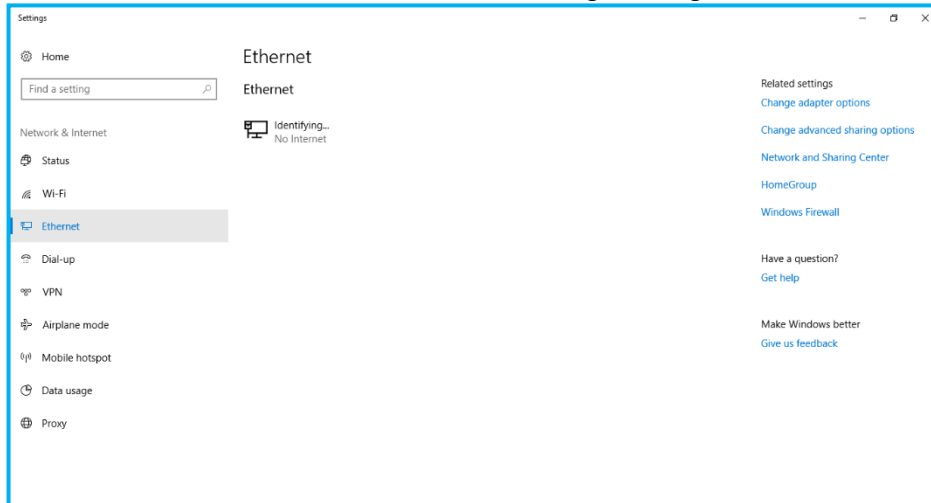

Figure 5-3 Choose “Ethernet” on the left
b) Click “Ethernet” on the left side of the settings in Fig 5-3.